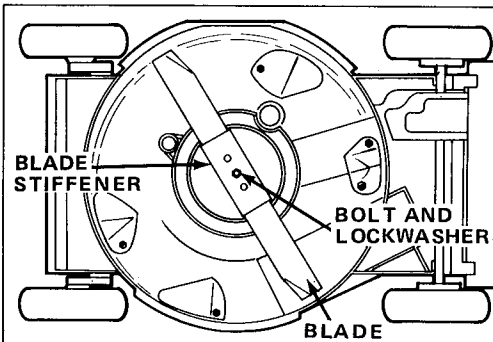

Figure 24
3. Tip mower on its right side (Fig. 24). Avoid rotating the blade because starting problems may result.
5. REMOVING BLADE—Grasp end of blade using a rag or thickly padded glove. Remove blade bolt, lockwasher, blade stiffener, and blade (Fig. 24).